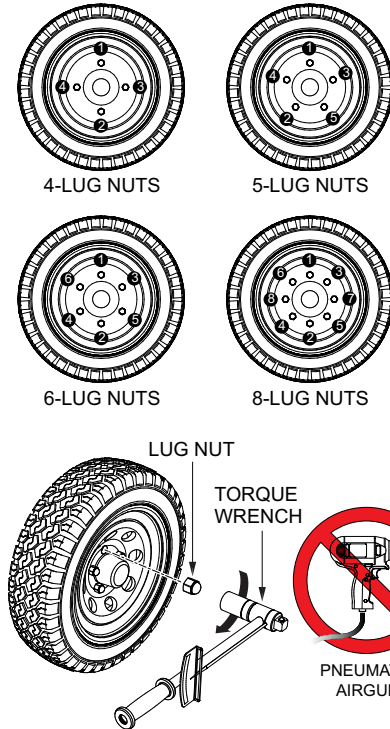

Figure 46. Wheel Lug Nuts Tightening Sequence
2. Torque (tighten) all lug nuts in sequence (Figure 46). **DO NOT** torque the wheel lug nuts all the way down. Torque each lug nut in **3 separate passes** as defined in Table 9.